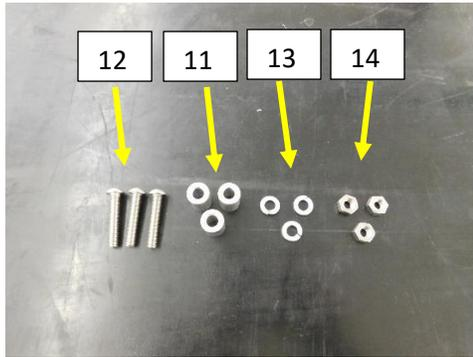

Figure. 6
2. Remove the following supplied mounting hardware from the supplied hardware pack. **Fig.6**